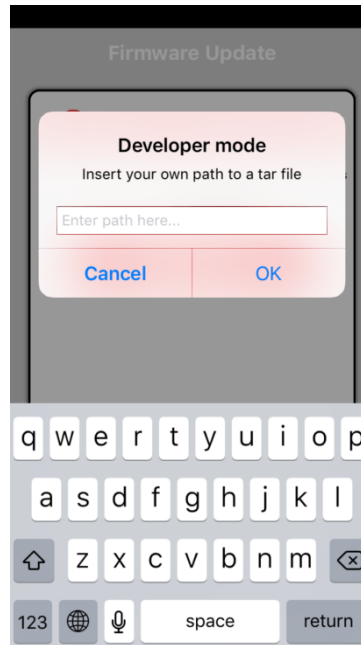

Figure 25. Mobile App Private OTA Repository
- Alternatively, users may also modify this link by pressing and holding the download icon next to the Check for software update button, and filling in the new URL as shown in Figure 25.